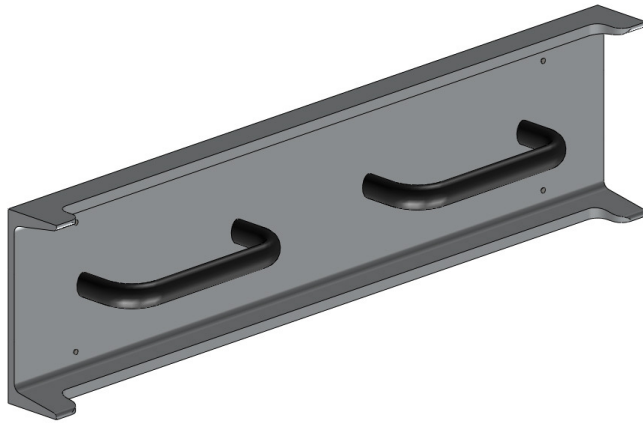

FIGURE 1
1. Inspect the gauge for defects. Both handles and all four magnets must be in place and securely tightened. The magnets should be clean and free of metal particles and debris (Figure 1 & 2).